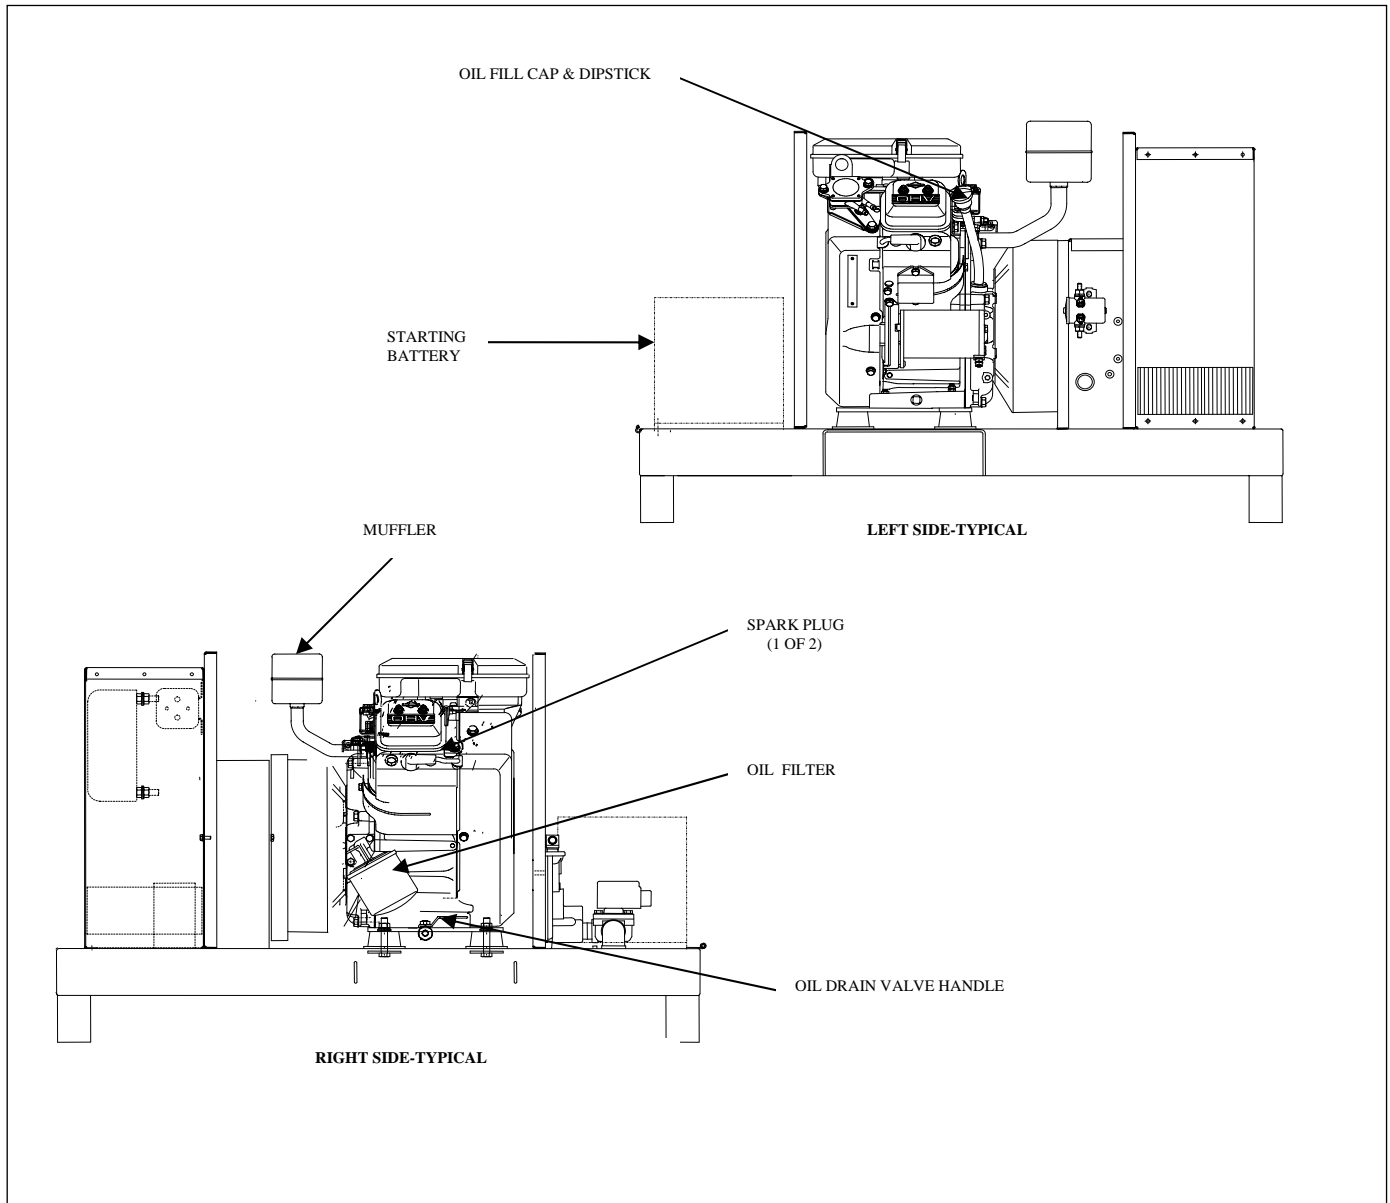

FIGURE 3. MAINTENANCE ITEMS
2. Unscrew the oil fill cap and wipe oil off the dipstick (Figure 3). Screw the cap back on, remove it, and check the oil level on the dip stick.
1. Run the genset until warm and stop it. Place a pan underneath the oil drain hose and filter (Figure 3) and open the drain valve. Reclose the drain valve when oil stops draining.
Refer to Table 3 for scheduled battery maintenance and replacement. The starting battery is mounted inside the genset enclosure (Figure 3). Refer to the battery manufacturer's instructions regarding battery maintenance and Specifications (Page 16) regarding minimum battery ratings.
Refer to Table 3 for scheduled spark plug(s) replacement. The spark plug(s) (Figure 3) must be in good condition for proper engine starting and performance. A spark plug that fouls frequently or has heavy soot deposits indicates